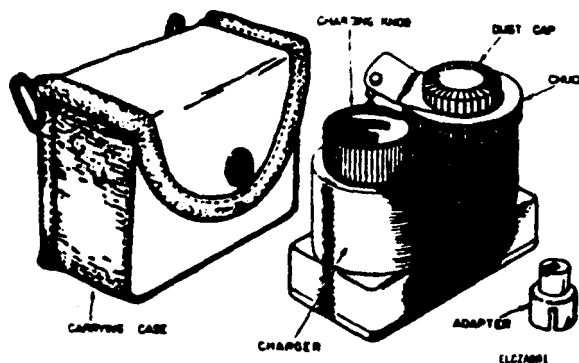

Figure 1. Charger, Radiac Detector PP-1578/PD.
PP-1578/PD (fig. 1):
*a. PP-1578/PD* (fig. 1). The PP-1578/PD consists of mechanical and electrical parts enclosed in a water-tight metal case. A charging socket with a chuck mechanism that secures the dosimeter during charging, and a rotatable charging knob are mounted on the top of the case. A dust cap that protects the charging socket when the charger is not in use is secured to the case by a bead chain. An adapter that permits the charger to be used to charge United Kingdom dosimeters is stored in the dust cap when the adapter is not in use. A circular glass window in the bottom of the case admits light to the bottom of the charging socket to illuminate the reticle of the dosimeter during charging. A cloth carrying case enclosed the assembled
The PP-1578/PD has one control - a charging knob (fig. 1 and 2). Clockwise rotation of the charging knob generates a positive charge. Counterclockwise rotation of the charging knob generates a negative charge.
1-13. Operation of PP-1578/PD (fig. 1)